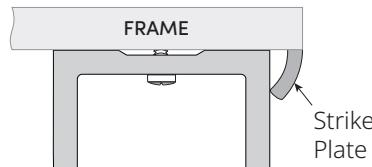

Figure 2:
1. To install the frame side with maximum adjustability, place the astragal on the face of the frame and butt the side of the astragal against the back of the strike plate as shown in Fig. 2.